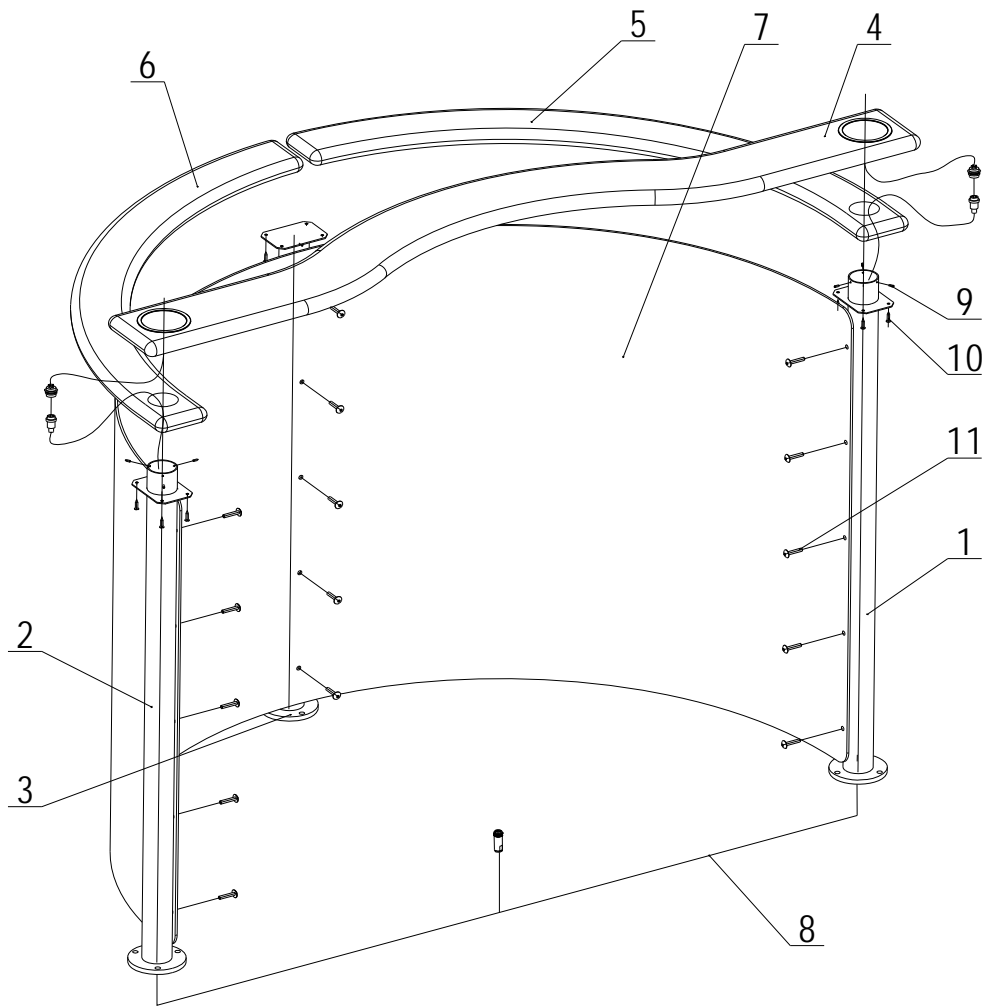

Fig. 4. Railing set installation
7.3.3. All positions are marked as per Figure 4. Recommendations for preparation of mounting holes for installation of the posts are given for the "SORMAT" anchor bolts for steady concretes (see Table 1).